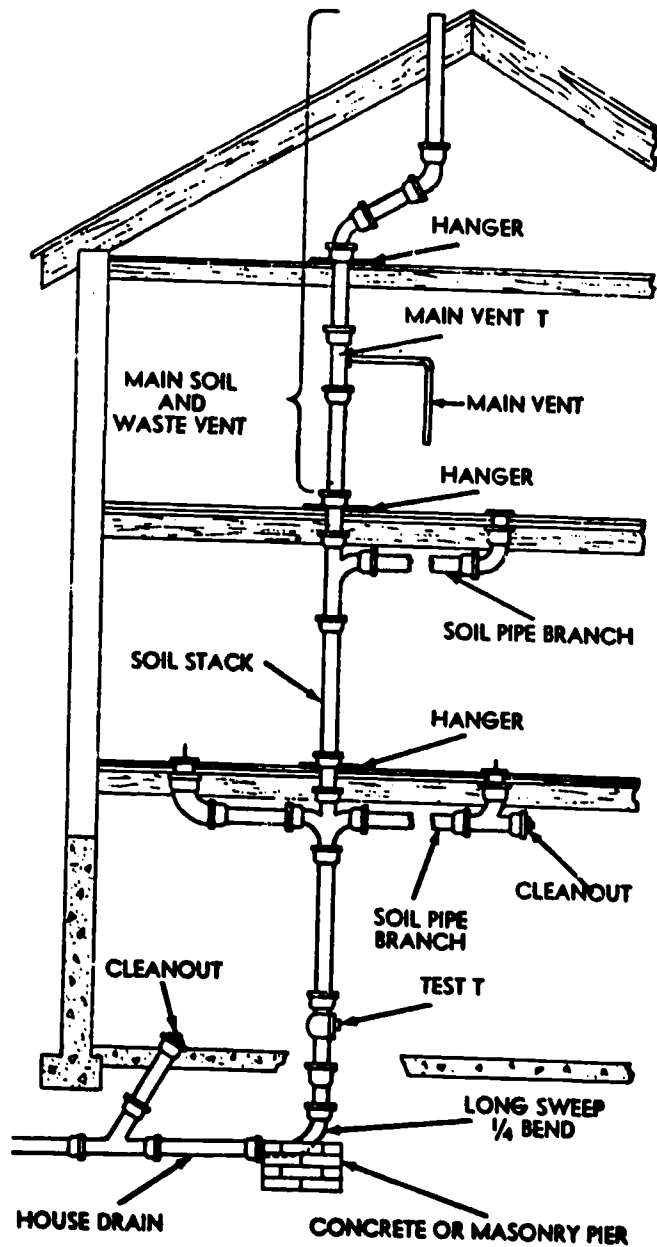

Fig 3-5. Soil stack and branches.
The stack is the vertical assembly of soil or waste piping into which the soil or waste branches convey the discharge from fixtures to the house drain. A waste stack conveys liquid wastes that do not contain human excrement; a soil stack conveys liquid wastes that do. Most buildings do not have separate soil and waste stacks; a single stack known as the soil and waste stack, or simply the soil stack, serves to carry both soil and waste material. Soil stacks are usually made of cast-iron pipe with caulk joints. They may, however, be made of other materials such as galvanized steel or copper tubing. Branches are usually either threaded galvanized steel pipe with drainage (recessed) fittings or copper tubing. Figure 3-5 shows a stack installation.
- A soil stack is the vertical main pipe that carries human excrement to a junction with a soil pipe or to the building drain, as shown in figure 3-5. The plumbing codes specify that a soil stack must be constructed of pipe with a minimum diameter of 3 inches.
- A waste stack is the vertical pipe that carries waste from any fixture, except water closets, to a junction with the soil pipe or to the building drain, as shown in figure 3-5. Waste stacks may be as small as 2 inches in diameter; the size of the pipe is determined by the number and type of fixtures connected to the stack.
- Vent stacks are vertical pipes which provides circulation of air through the drainage system. The vent stack may be constructed on top of a soil stack, but only the portion of the pipe which is above the highest fixture rim or waste branch inlet is considered to be the vent stack, as you can see in figure 3-5.
Notice in figure 3-5 that the stack is started with a long sweep 1/4 bend. (The long sweep allows a smoother change of direction for the flow of wastes.) The stack then goes through the basement where a test tee is installed 12 inches (27.48 centimeters) above the finished floor. The stack then continues up to the point where it intercepts the first floor branches. A double 90° Y-branch is used to connect branch lines from both sides. Next, a short piece of cast-iron soil pipe is caulked in just enough so the hub clears the first floor. At this point, a hanger or brace is put between the floor and the hub. This bends to
hold the stack from settling. If there is more than one floor, this procedure is repeated as shown in figure 3-5. The stack is continued until it reaches a point 6 inches (15.30 centimeters) above the flood level of the highest fixture. Here a T is installed. It is sometimes referred to as the main vent T. The stack is then continued through the roof. It should extend at least 12 inches above the roof. The hole around the pipe is waterproofed by using some sort of flashing as shown in figure 3-7. In certain areas of the country, it is possible for frost to close the vent at the roof outlet when the vent is exposed to temperatures below freezing. The air within the stack and vent pipes in the building is usually very close to the moisture saturation point. When this very humid air is emitted from the main and waste vent, it condenses and freezes if it is exposed to extremely cold temperatures. One way to prevent frost from closing the vent is to increase the pipe to a size or two larger than the vertical stack. Another method that can be used in extremely cold climates is to install a high lead flashing which provides an insulating pocket of air between the flashing and the end of the main and waste vent above the roof. This air pocket is open to the heat of the building and provides an intermediate warming area for gases leaving the main soil and waste vent.
A branch (fig 3-5) is connected to the stack with a 90° Y-branch and is run slightly uphill to the farthest fixture. It should have a 1/4 inch per foot drop slope as it falls to the stack. At the end of each branch, a cleanout is installed. The branch lines should be supported every 5 feet (1.52 meters).